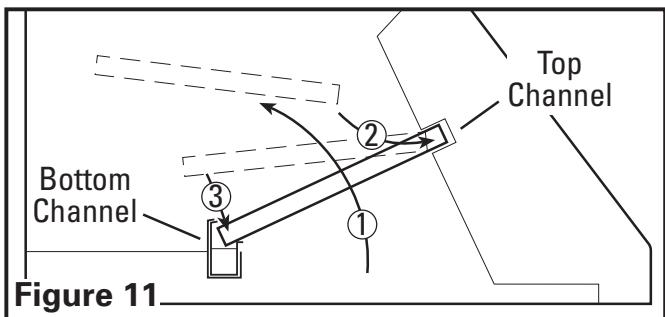

Figure 11
3. Install the baffle filters along with any spacer bars that are required by inserting the top of the filter into the top channel of the hood, then slide the bottom of the filter into the bottom channel. In models with spacers, it is easiest to install the spacer(s) first and the grease filters last (**Figure 11**).